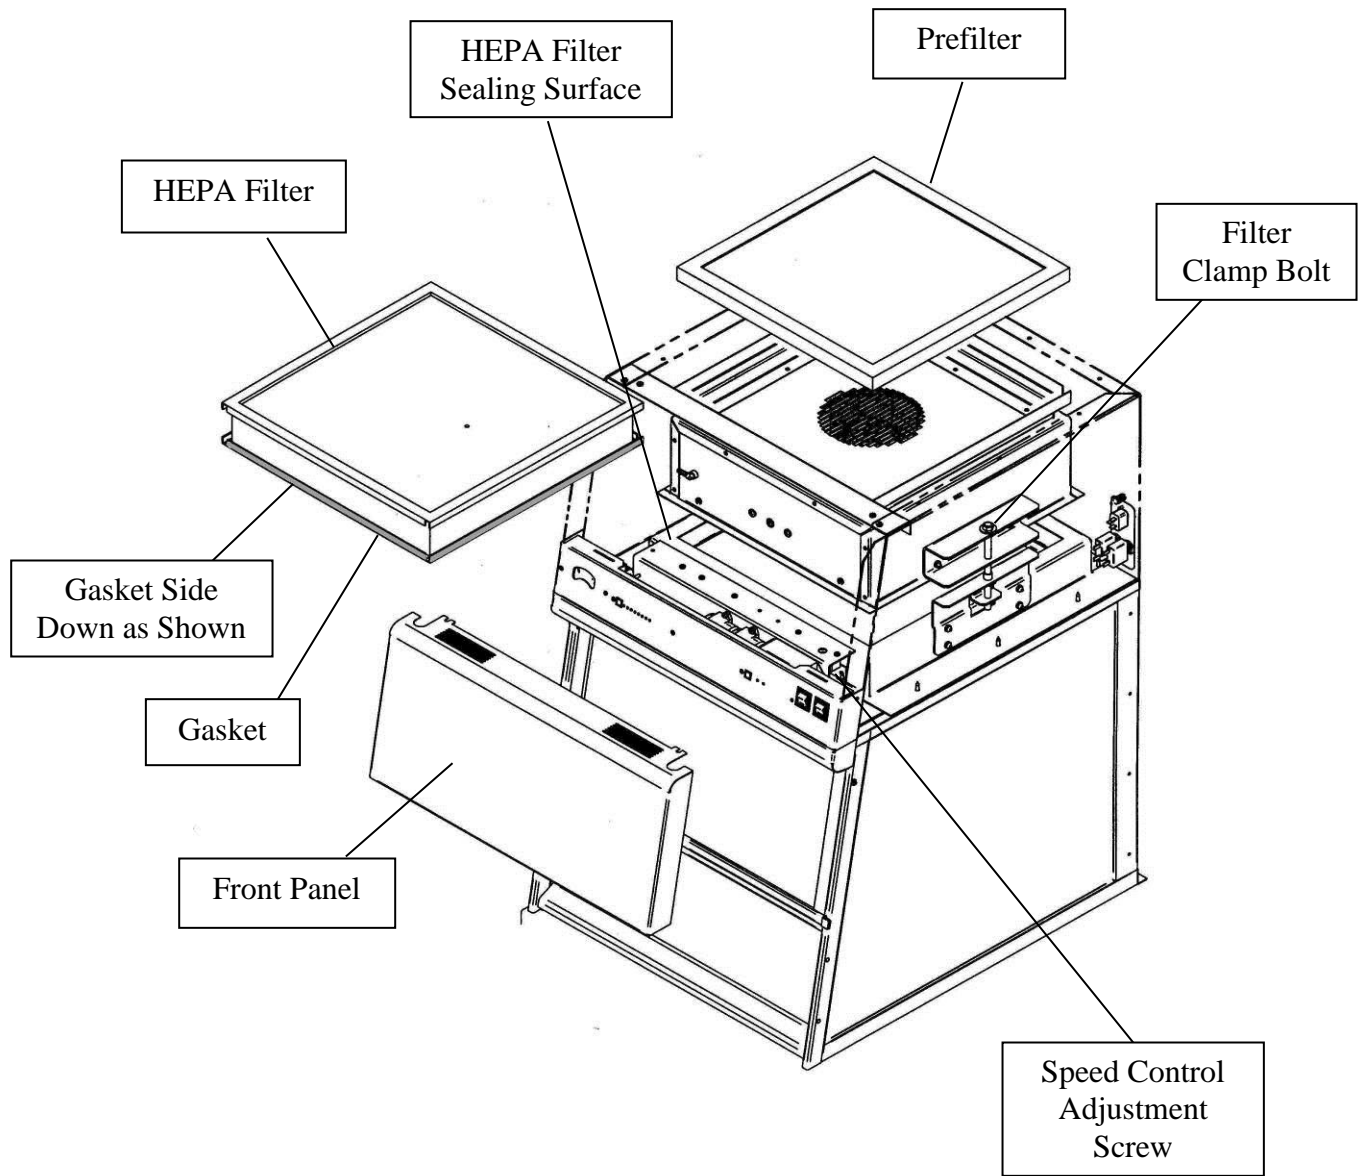

Figure 6-1
NOTE: Only a qualified certifier should service the HEPA filter. After the HEPA filter is replaced, the enclosure **MUST** be certified. See Figure 6-1.
3. Using a 9/16" deep socket, loosen the filter clamp bolts located on top. Refer to Figure 6-1.
After installing the new HEPA filter, the HEPA filter should be leak checked. This test is performed to determine the integrity of the HEPA filter, the filter housing, and the filter seal. Leak testing must be done by a qualified technician with calibrated equipment. Remove the upper perforated diffuser located inside the enclosure by using a Phillips screwdriver to unfasten the screws (see Figure 6-1). The filter passes the leak test at .01% or better. Reference Leak Testing and Photometer scanning from the Institute of Environmental Services (IES-RP-CC001.3).
1. Remove the front panel by loosening the (2) Phillips screws on top that secure the front panel.
2. The speed control is located on the electrical subassembly located behind the switched control panel and below the front panel. See Figure 6-1.